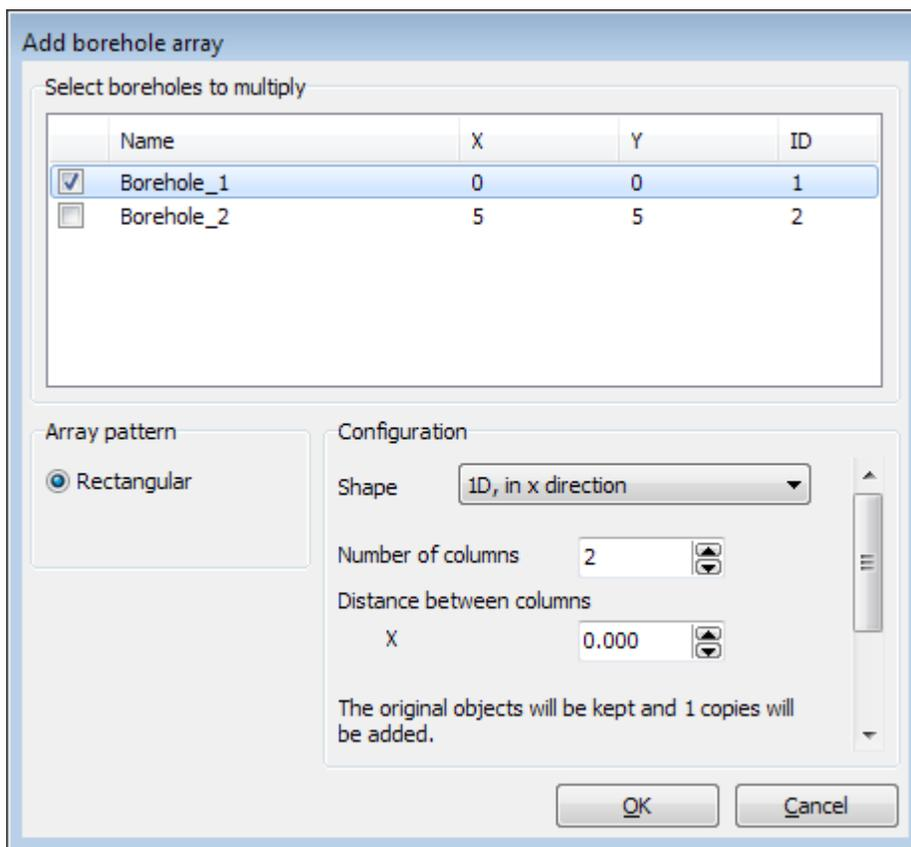

Figure 31: **Add borehole array** window
- In the **Modify soil layers** window, click *Boreholes* and select the *Add array* option. The **Add borehole array** window pops up (Figure 31: Add borehole array window (on page 63)).